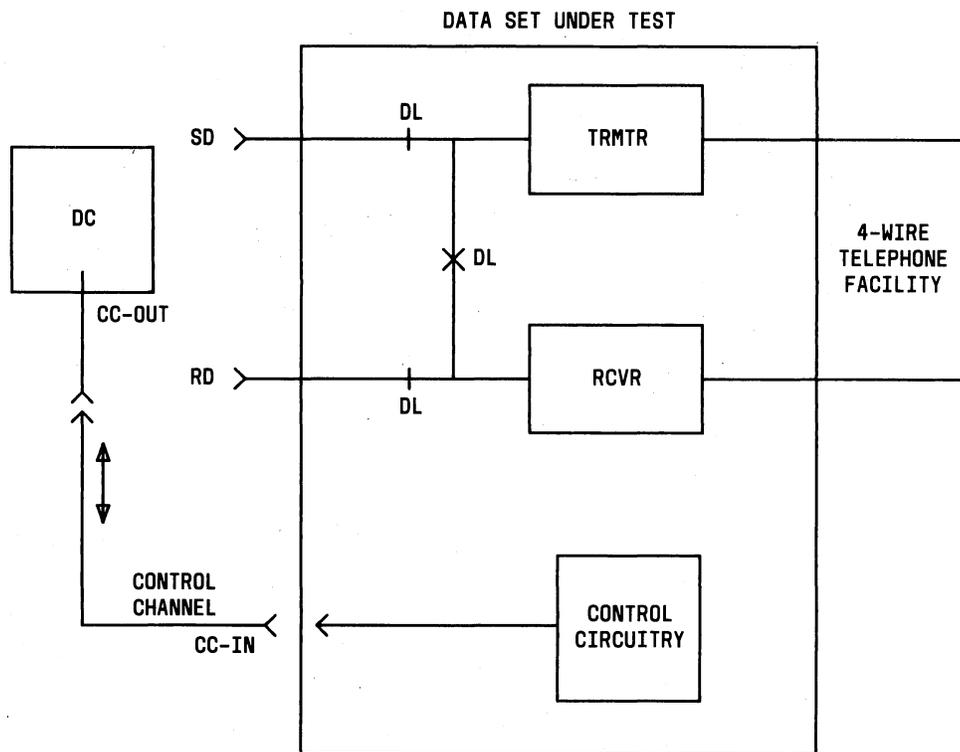

Fig. 12—Digital Loopback Subtest
3.55 In the digital loopback subtest (Fig. 12) the output of the receiver is looped to the input of the transmitter.